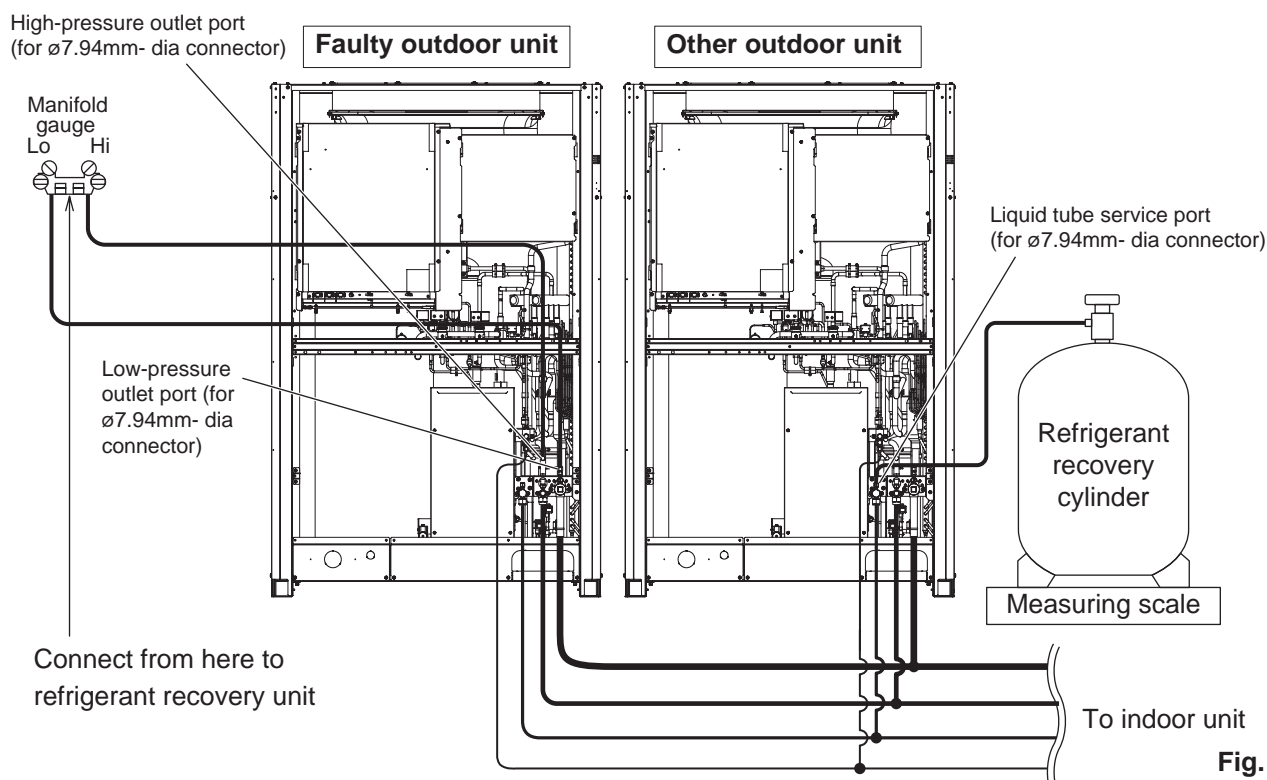

Fig. 14
- (1) See "3. Backup Operation" and perform backup operation.
- (2) Connect the manifold gauge valves at the Lo side to the low-pressure outlet port of the outdoor unit to be repaired. Also connect the refrigerant recovery cylinder to any one of the normal outdoor units at the liquid tube service port (Schrader-type push-to-release valve). Perform the connection work quickly so that no air is allowed to enter. (Fig. 14)